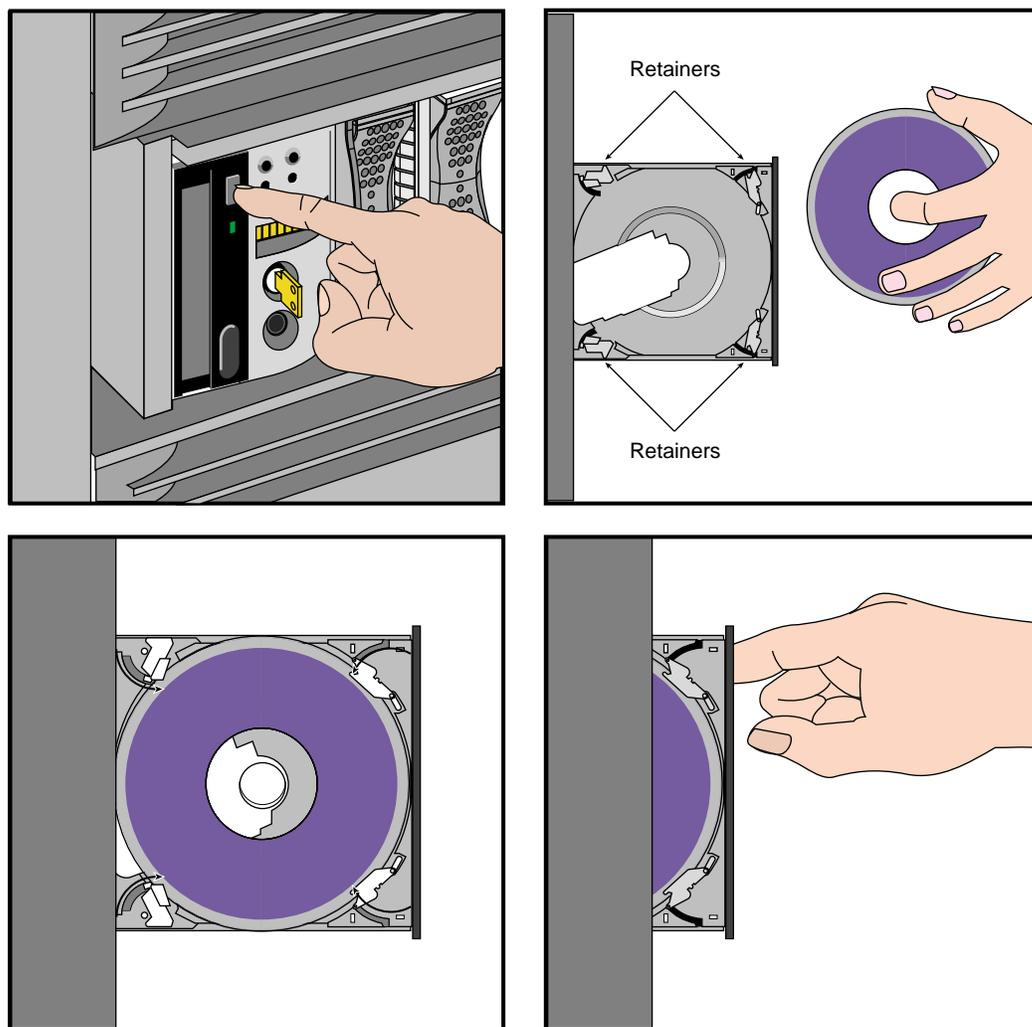

Figure 5-4 Installing a CD-ROM Into an Origin2000 Chassis
1. Press the eject button to release the CD-ROM carrier (see Figure 5-4).
2. Hold the CD-ROM diskette by the edges and place it into the holder clips as shown in Figure 5-4.